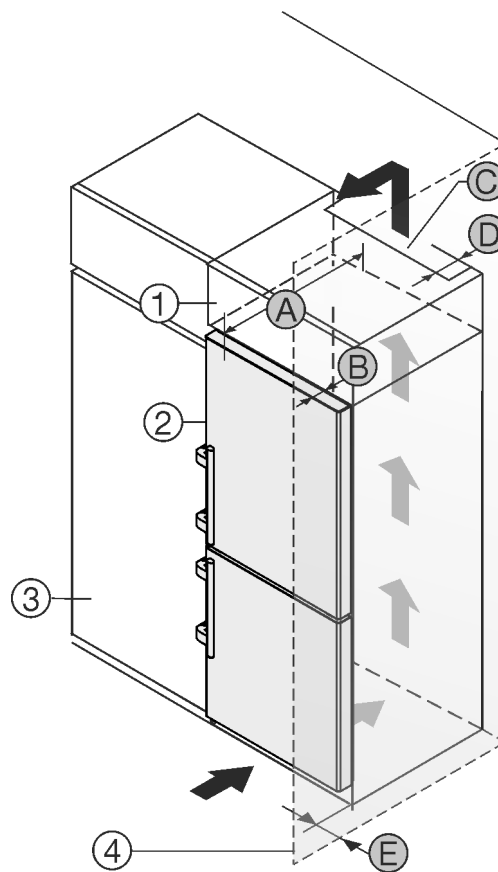

Fig. 2
Set up the appliance directly next to the kitchen cabinet Fig. 2 (3).\*
There must be a ventilation shaft at the depth Fig. 2 (D) of the back of the top cupboard over the entire width of the top cupboard.\*
The cross section of the ventilation gap Fig. 2 (C) must be maintained below the ceiling.\*
If the appliance is installed with the hinges next to a wall *Fig. 2 (4)*, the distance between the appliance and the wall must be at least 57 mm (2.24 in). This is how far the handle protrudes when the door is open.\*
In order to be able to fully open the door, the appliance must protrude by the depth *Fig. 2 (B)* of the door from the front of the kitchen cabinet. Regardless of the depth of the kitchen cabinets *Fig. 2 (3)* and use of wall spaces, the appliance can protrude further.\*